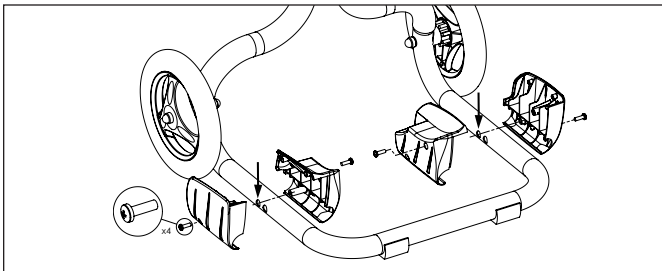
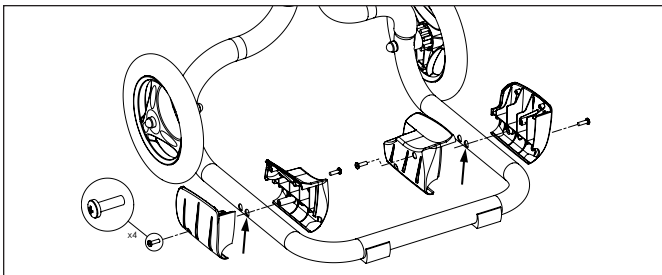

Figure 10. Attaching the Support Blocks (Polaris P93)
Figure 11. Attaching the Support Blocks (Polaris P94)
- Attach the support blocks to the caddy using four (4) screws as shown in Figures 10 and 11. For the Polaris P93, see Figure 10 for orientation and positioning of the blocks, and for the Polaris P94, see Figure 11